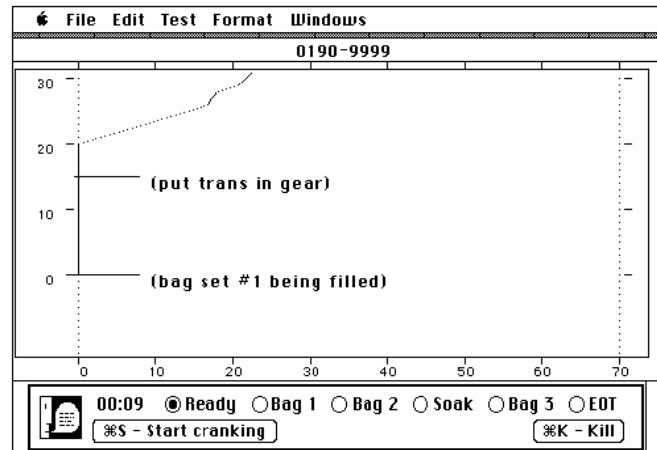

Figure 14
- 307 Press <Command S> to start the VDA trace scrolling. The crank time will be displayed on the left side of the dialog box. See Figure 14.